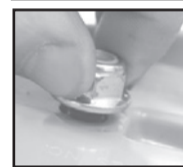

Figure 3
- Hand tighten the nuts on all bolts. (figure 3) Using a ratchet wrench, tighten nuts starting with the center bolt, keeping the degree of threading on all bolts approximately even as the runner tightens to the ski. (figures 4-6)